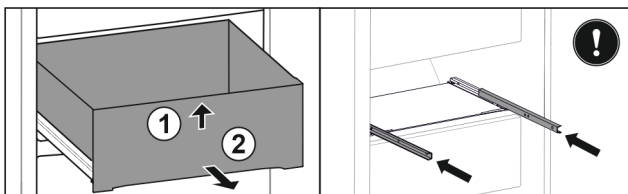

Fig. 134
- ▶ Lift up drawer at the front. Fig. 134 (1)
- ▶ Remove drawer to the front. Fig. 134 (2)